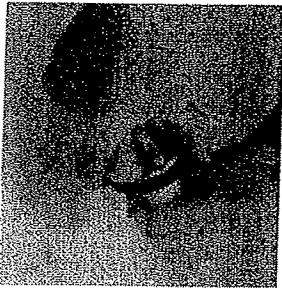

Figure 1
2. **Remove all burrs from pipe end.** Chamfer the pipe end to ease insertion of the pipe and prevent the coil from being displaced. (See Figure 1)